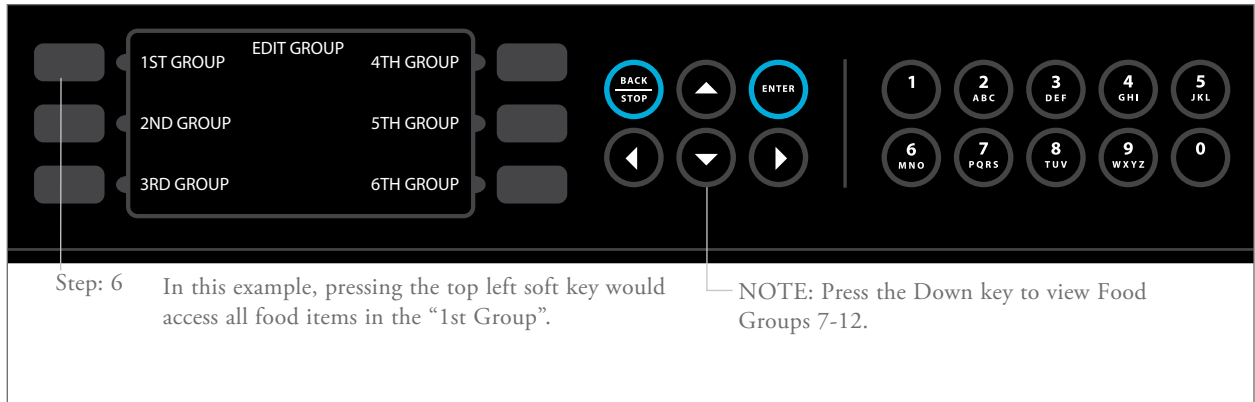

Figure 19: Modifying Recipes – Step 6
6. Select the food group that contains the item to be modified (Figure 19).